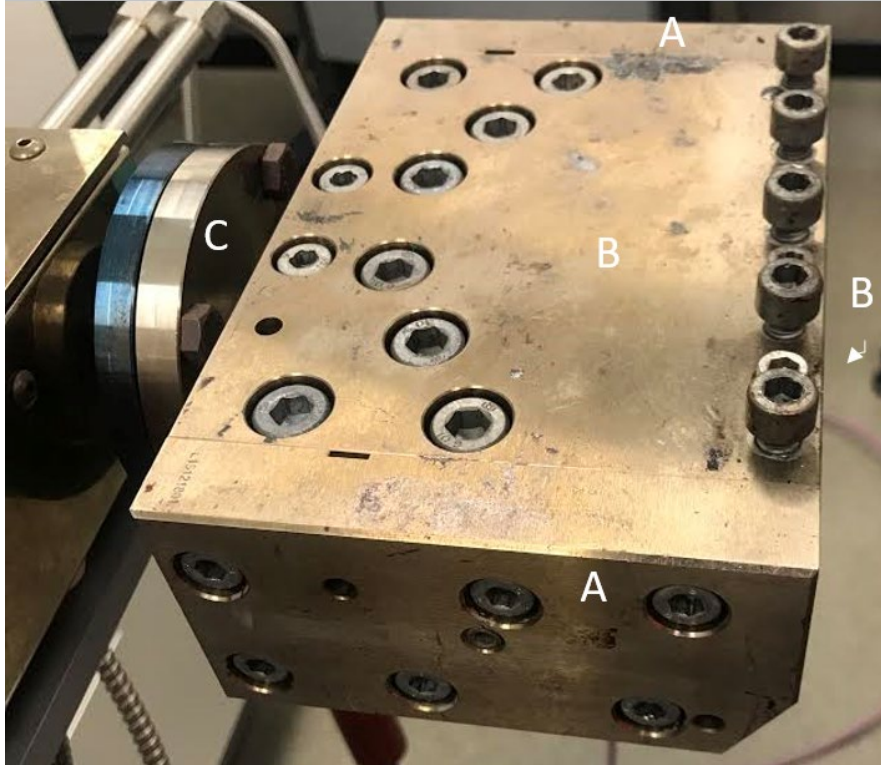

Fig. 7 150-mm slit die with the heating band removed; A) side walls, B) top and bottom sections, and C) connection port exposed
- g. The die consists of five components: two side walls, a top and bottom, and then a port that connects the die to the extruder (Fig. 7).